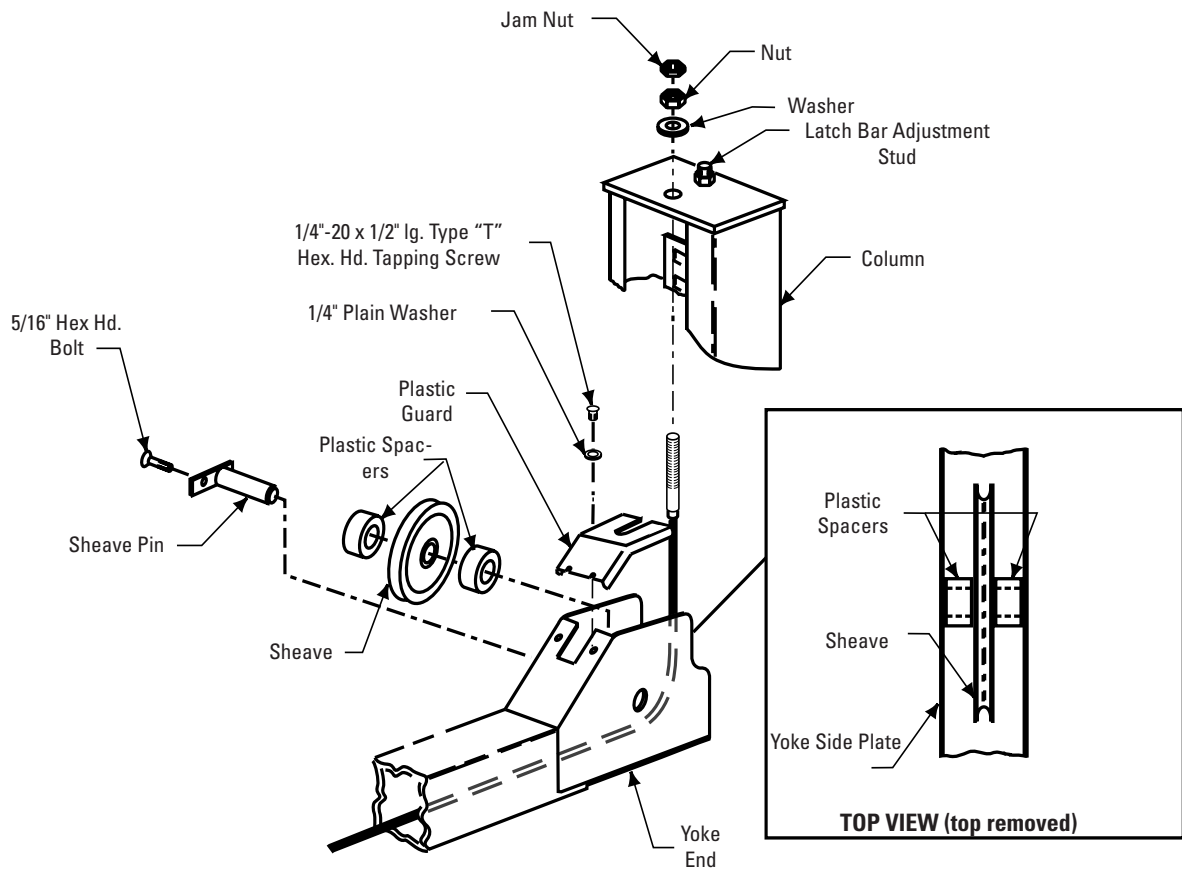

Fig. 8
- B. Retain with sheave pin and 5/16" hex head machine bolt. Attach each cable to column top plate with spacer, nut, and jam nut, Fig. 8. Install rubber sheave guard on each yoke end, Fig. 8. Roping diagram shows a view of completed roping, Fig. 9.
- F. Install yoke end sheaves and plastic spacers, Fig. 8. A plastic spacer is placed on each side of the sheave, inset Fig. 8.
Adjust cable with lift fully lowered. Loosen jam nut and tighten nut on cable stud on top of column until yoke end raises 1/4". Back off nut one turn. Retighten jam nut. Repeat for all four cables. Refer to Fig. 8.